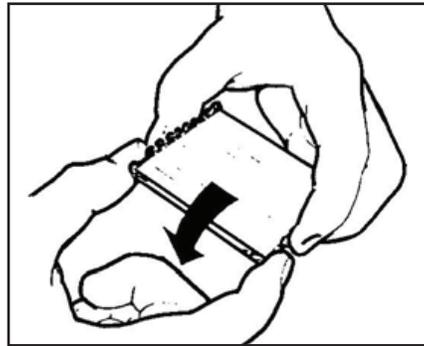

Figure 5
- 4.1 Grasp a plug cover strip between thumb and forefinger of both hands, with the liner facing you. Rotate the outermost cover down against the adjacent cover on the strip, breaking it from the liner. Pull laterally away from the strip. Adhesive should be present on the cover. (Figure 5)